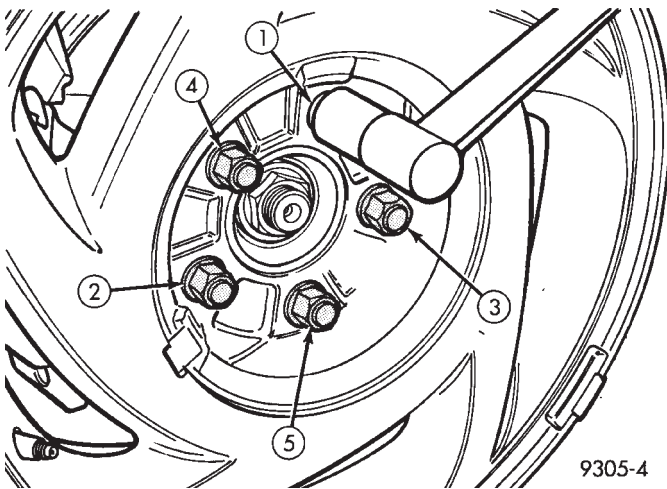

Fig. 2 Tightening Wheel Nuts
(1) Install rear brake drum assembly on rear hub and bearing assembly.
(2) Install the wheel and tire assembly.
(3) Tighten the wheel mounting stud nuts in proper sequence (Fig. 2) until all nuts are torqued to half specification. Then repeat the tightening sequence to the full specified torque of 129 N•m (95 ft. lbs.).